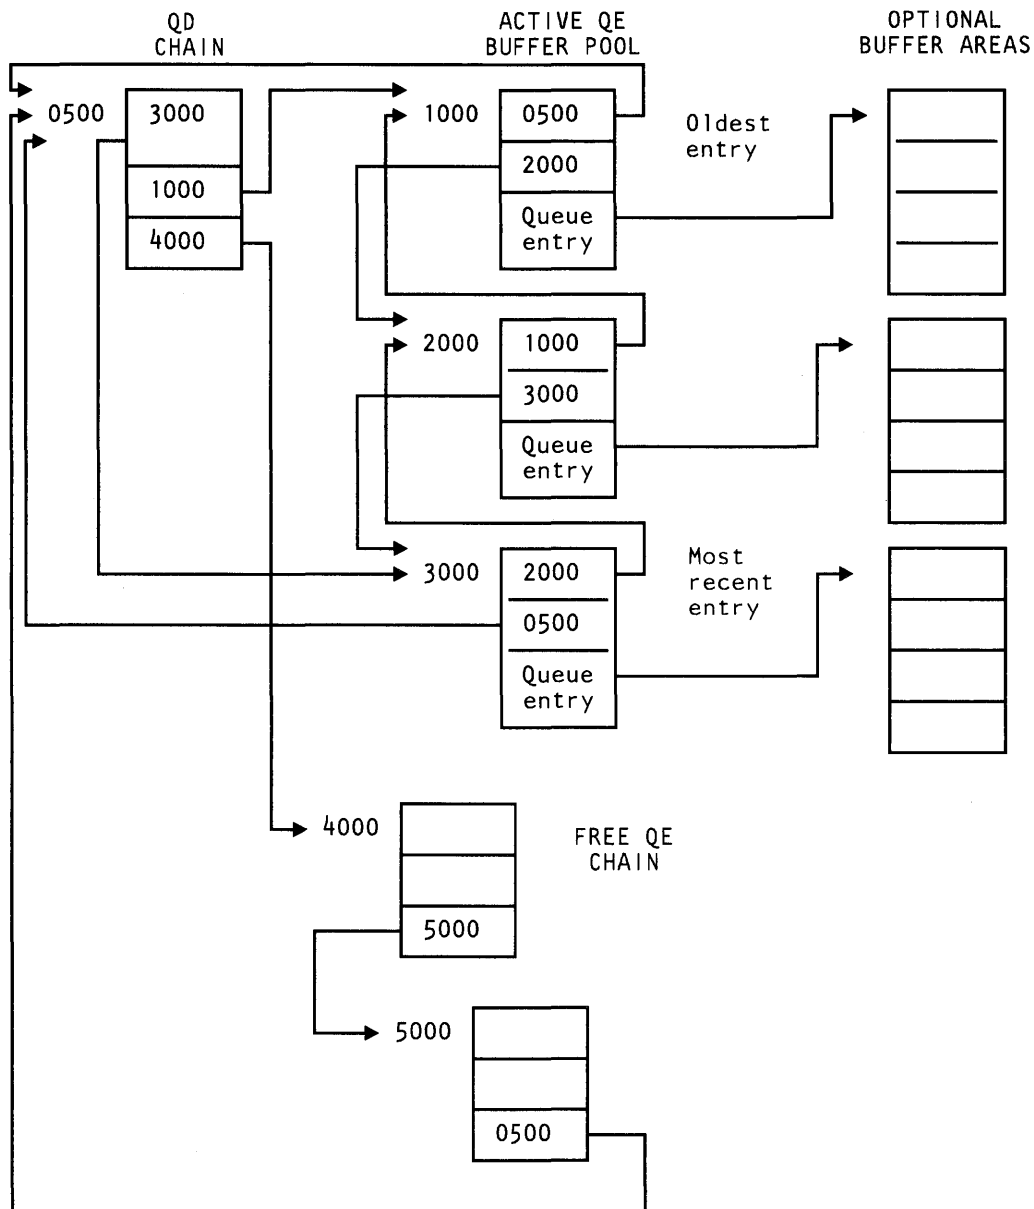

Figure 7. Layout of a Queue
A queue is composed of a queue descriptor (QD) and one or more queue entries (QEs). Figure 7 on page LR-117 shows the layout of a queue.